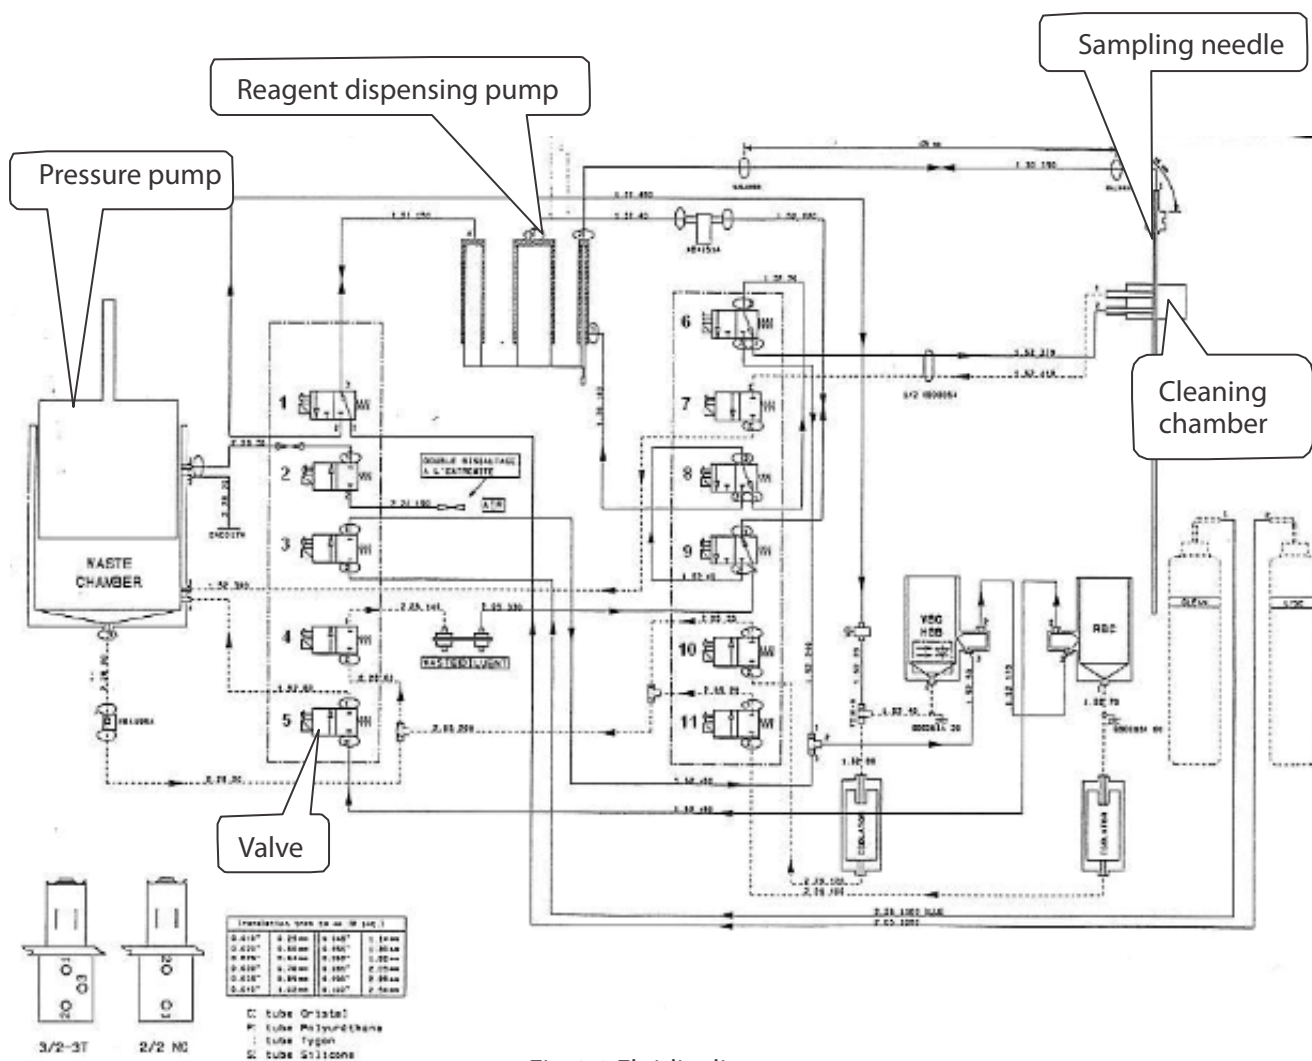

Fig.4-1 Fluidic diagram
Fig. 4-1 shows the Fluidic diagram of the instrument:
As shown in fig. 4-1, there are 11 valves, which functions are as follows:
3. At the left side from top to bottom are valves 1-5. At the right side from top to bottom are valves 6-11 (reference Fig. 4.1).